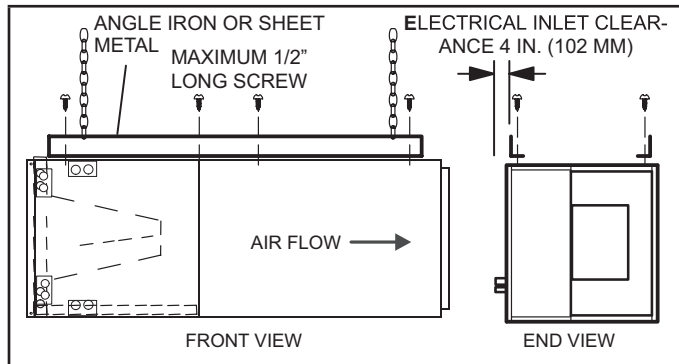

FIGURE 12. Suspend Horizontal Unit
- 12 - If suspending the unit, it must be supported along the entire length of the cabinet. If using chain or strap, use a piece of angle iron or sheet metal attached to the unit (either above or below) so that the full length of the cabinet is supported. Use securing screws no longer than 1/2" to avoid damage to coil or filter, as illustrated in figure 12. Connect return and supply air plenums as required using sheet metal screws.
- 5 - If the unit is suspended, the entire length of the cabinet must be supported. If you use a chain or strap, use a piece of angle iron or sheet metal attached to the unit (either above or below) to support the length of the cabinet. Use securing screws no longer than 1/2 inch to avoid damaging the coil or filter. See figure 12. Use sheet metal screws to connect the return and supply air plenums as required.